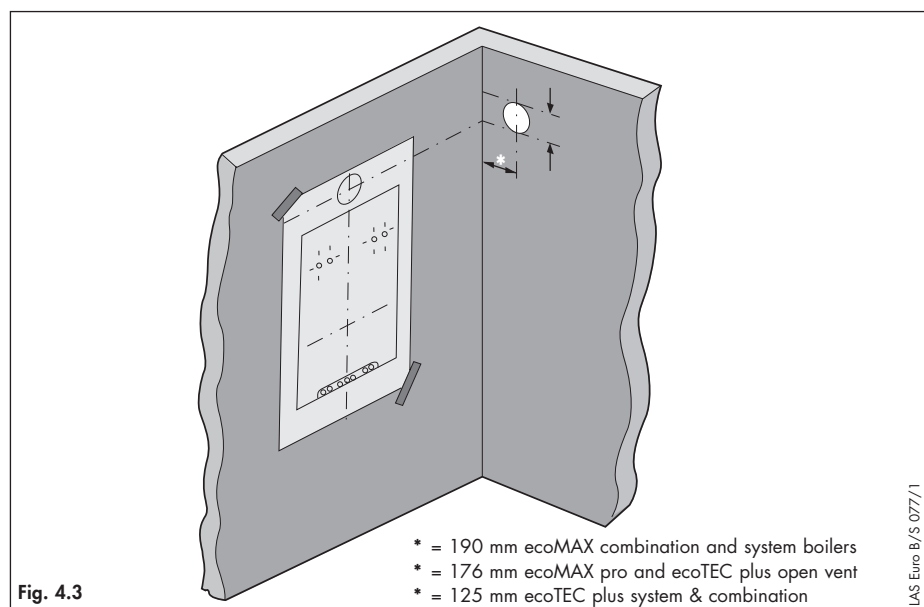

Fig. 4.3
- Identify the correct measurement as shown in fig. 4.3, carefully measure the distance from the bottom centre of the boiler hanging bracket (centreline of the two lower hanging bracket fixing holes). This gives the position of the centreline of the 127 mm flue elbow and adaptor when installed.